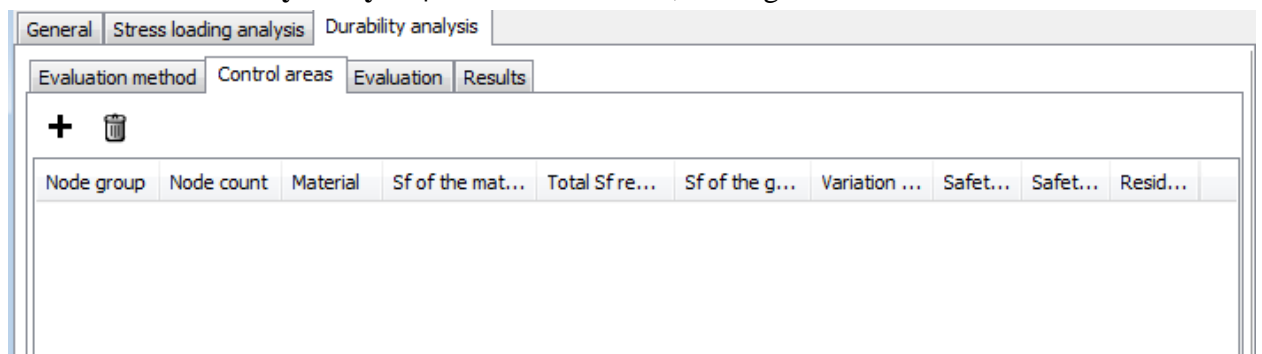

Figure 2.27. Control area list
1. Select **Durability analysis | Control areas** tab, see Figure 2.27.